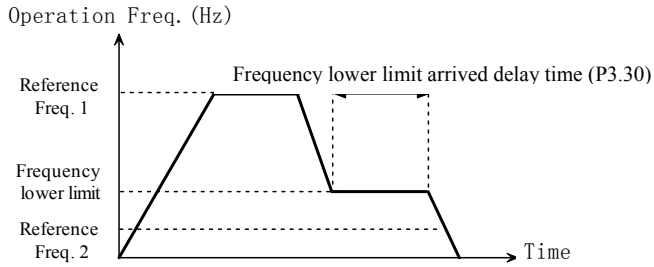

Fig. 5-2-4 Zero-speed running
- ◆ Option 1(Zero frequency running): if the setting frequency is lower than the lower limit frequency, the inverter should run at the lower limit frequency, and run at 0 frequency after the delay time arrives at P3.30, as shown in Fig. 5-2-4.